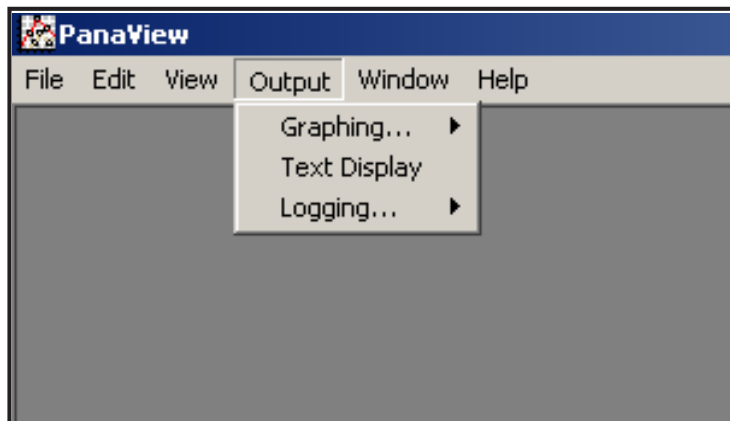

Figure 2: Output Menu
To access PanaView's data handling options, pull down the *Output* menu, as shown in Figure 2.
2. Pull down the *Output* menu and click on the *Text Display* option (see Figure 2 on page 40).
2. Pull down the *Output* menu and click on the *Graphing - New* option (see Figure 2 on page 40).